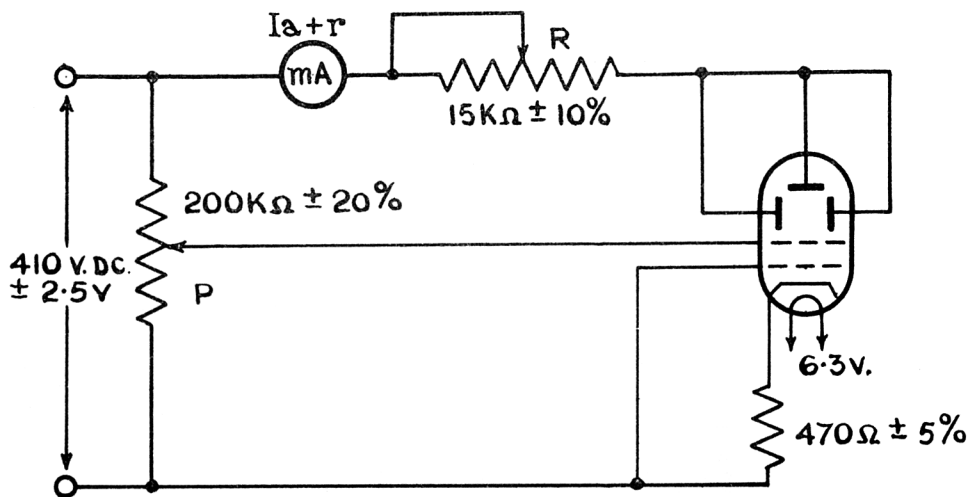

FIG.1
- Tests 'd', 'e' and 'f' to be carried out with DC supply conditions as shown in figure 1 (Page 3), and in an approved tuning cavity fitted with an approved detector unit (an approved tuning cavity is given in MAP drawing BTR91428 and an approved crystal detector unit is given in MAP drawing DTR88502). The crystal output circuit is to be 1000 resistive inclusive of meter.